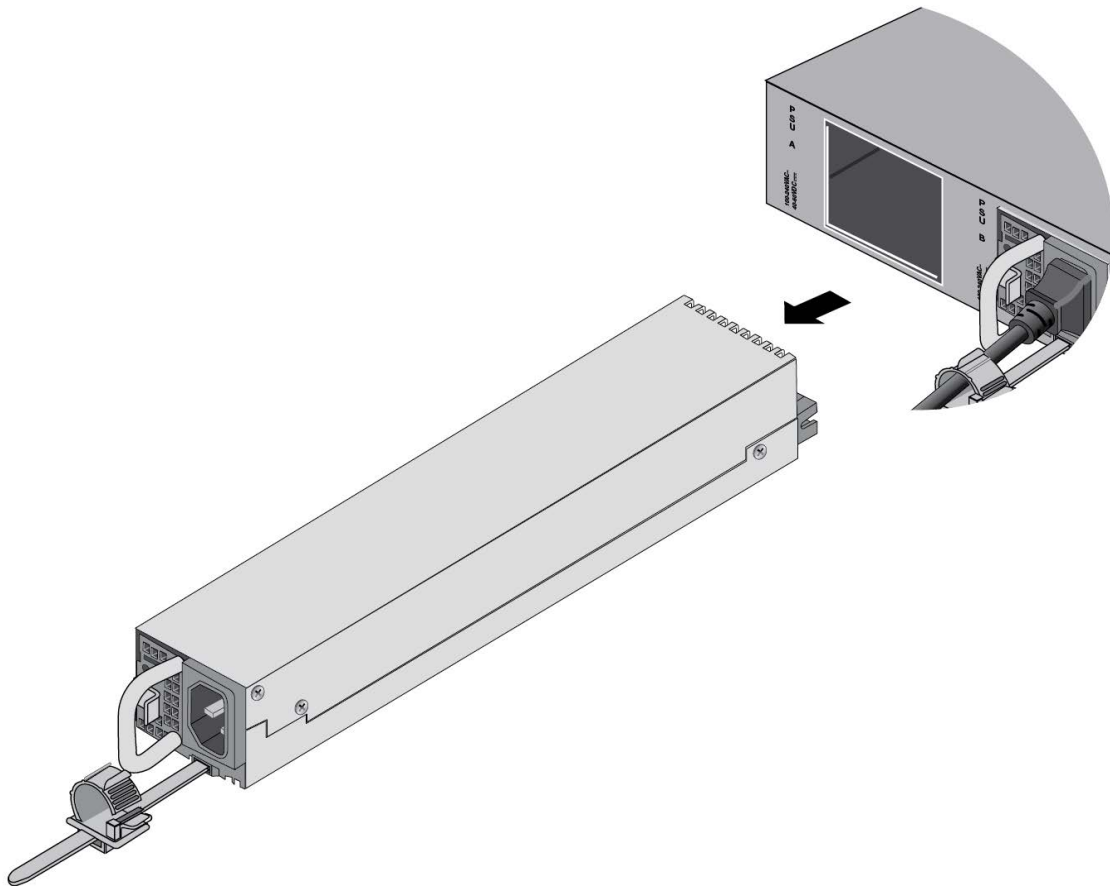

Figure 150. Removing a Power Supply
5. Carefully slide the power supply from the switch. Refer to Figure 150 on page 254.